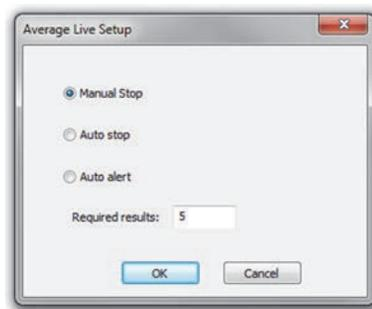

Figure A-3 The Average Live Setup window
2. Click the averaging () icon to display the **Average Live Setup** dialog box (see Figure A-3 on page 116).